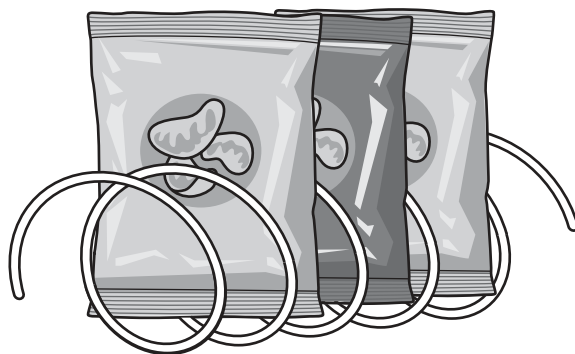

Fig. 5.2
- (b) Fig. 5.2 shows the mechanism that is used to dispense packets of snacks from the vending machine.
- (i) Explain the operation of the mechanism shown in Fig. 5.2 as it dispenses packets of snacks. Use technical terms in your response.